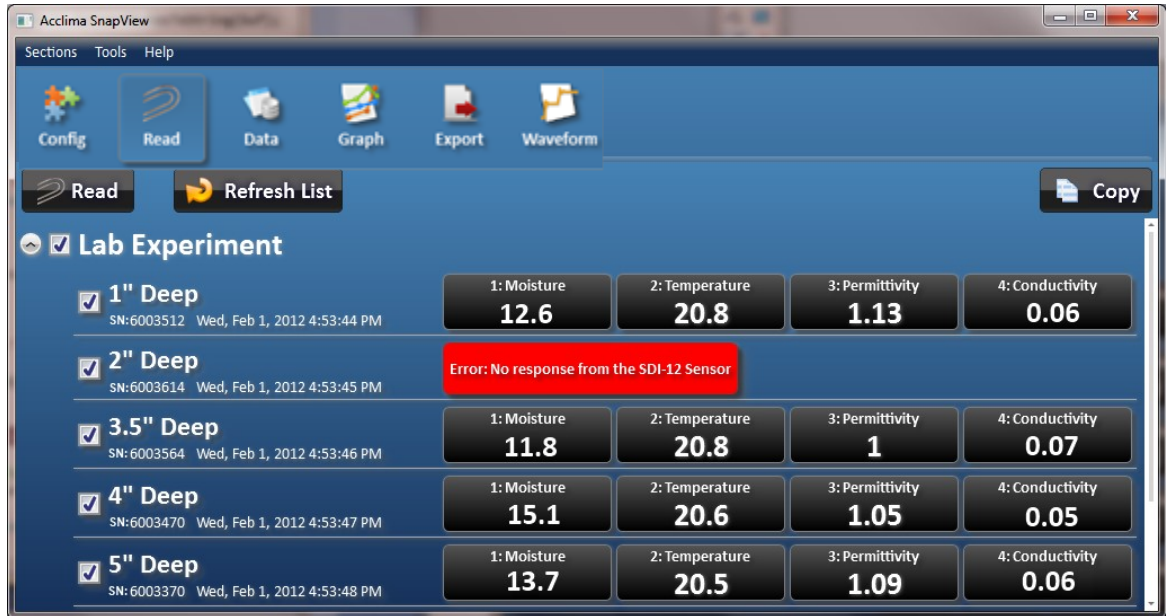

Figure 14 – Read Sensors
- Click the 'Read' button to read each selected sensor. The sensor's name, serial number, reading time and measurement data is displayed. If a configured sensor is not attached to the DataSnap, an error is displayed. Notice in **Figure 14** below, the sensor named '2" Deep' had an error.